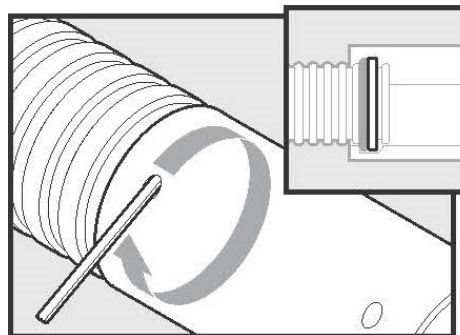

Figure 31
- B. Push the Key-Lock strip (in the direction of the arrow on the label) around the entire circumference, locking the corrugated grooves in the conduit and coupler securely together as shown in Figure 31.